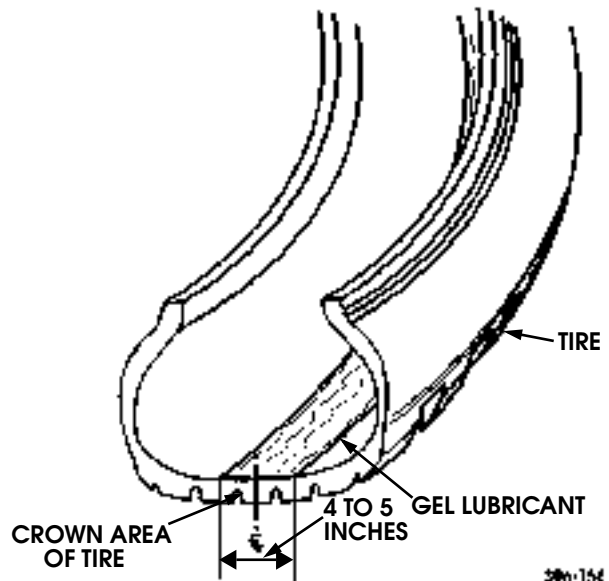

Figure 6-10: Runflat Gel Lubricant Application
1. Apply one 11-ounce tube of gel lubricant around inside of tire at crown area. Using clean brush, evenly spread gel lubricant 4 to 5 inches wide on tire crown area (Figure 6-10).